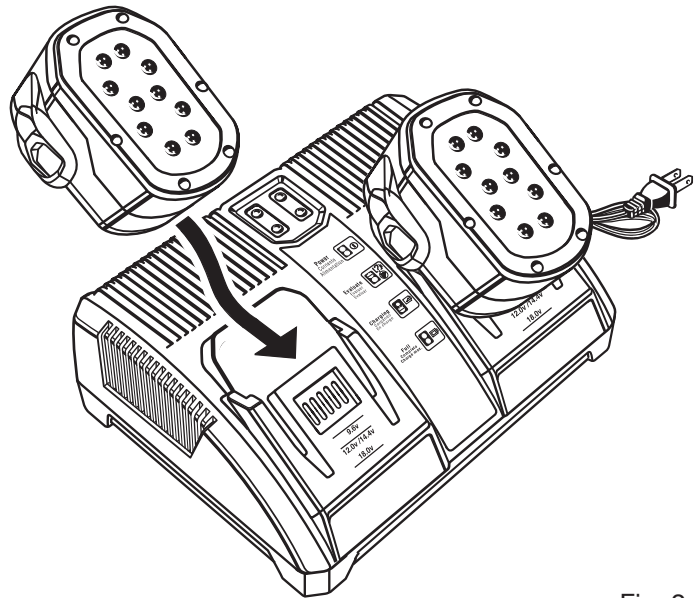

Fig. 2
- Attach battery pack to charger by aligning raised ribs on battery pack with grooves in charger, then slide battery pack onto charger. *See Figure 2.*